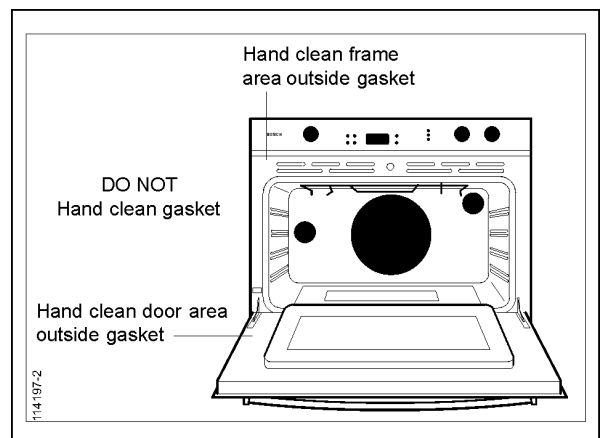

Figure 6.
- Clean soil from the frame around the door, outside the door gasket (see Figure 6 Page 13). Do not clean the door gasket by hand as this could move or damage the gasket. The areas outside the gasket area must be cleaned by hand because these areas do not become hot enough during Self-Clean to burn away the soiled spots.
Make sure oven is cool. Use warm soapy water. With a non-abrasive plastic scrubbing pad, clean the frame surface & area outside the door gasket. This area must be cleaned by hand because the area outside the gasket does not get hot enough to burn off the soil (see Figure 6).